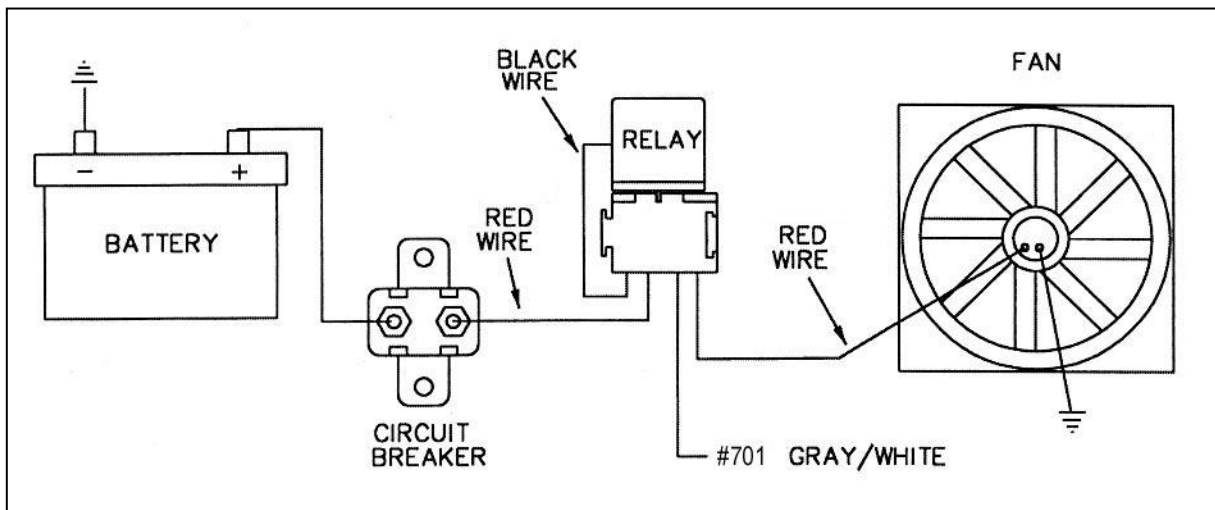

Figure 7.7 Fanless Fan Relay Kit (Part #50101)
7.6.4 Connect HEADLIGHT SECTION A wire #701 (gry/wht) to the Electric Fan Relay. This wire is an activation wire for the relay, **NOT A POWER FEED.** The other end of wire #701 is in the ACCESSORY SECTION SWITCHES and should be connected to the electric fan switch in the dash. **Figure 7.7** shows a typical fan relay installation.